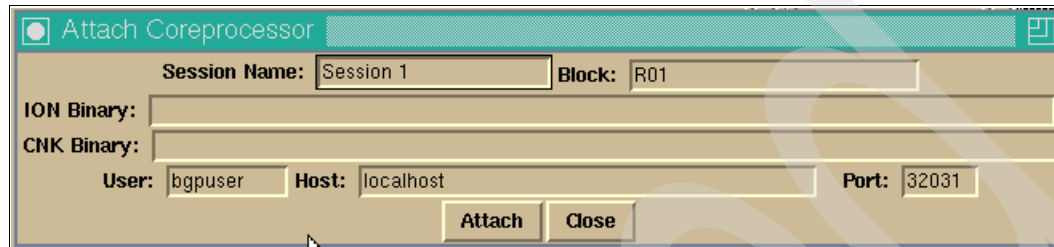

Figure 10-2 Coreprocessor attach window
1. Start the Coreprocessor GUI, and then select **File**  $\varnothing$  **Attach To Block**. The window shown in Figure 10-2 opens.